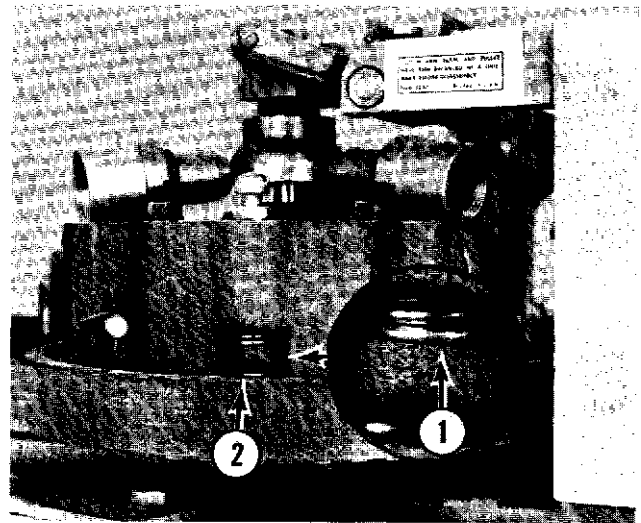

Fig. 7-6
- (1) The clutch should not slip under load. The motor should stall before the clutch slips.
- (2) With the motor running and the clutch disengaged, the planetary should try to creep forward slightly. (The brake will prevent it from creeping.) Check by grasping the planetary casting and pulling against the clutch drag.
- (3) With the clutch engaged and the motor **not** running, visually check the clutch release springs (1, Fig. 7-6). They should not be fully compressed. (If they are fully compressed the pressure plate ears will break.)
- (4) If the above listed checks are correct, no further action is required.
- (5) If one or more of the above listed checks is not correct, the clutch must be adjusted.
- (10) Slowly engage the clutch (motor not running) while observing the clutch release springs (1, Fig. 7-6). The springs must not be fully compressed when the clutch is engaged or the ears (2, Fig. 7-6) on the pressure plate will break.
- (11) If the springs are nearly fully compressed, recheck the release spring screw adjustment, steps (8) and (9).
- (12) If the release spring screws are adjusted correctly and the springs are nearly fully compressed, the clutch disc are worn and must be replaced. (Refer to: Section 9, Clutch and Brake.)
- (13) Check the clutch for proper operation. Refer to: Clutch "Checking for Correct Adjustment".
- (14) Check the brake adjustment. Refer to: "Brake Adjustment".